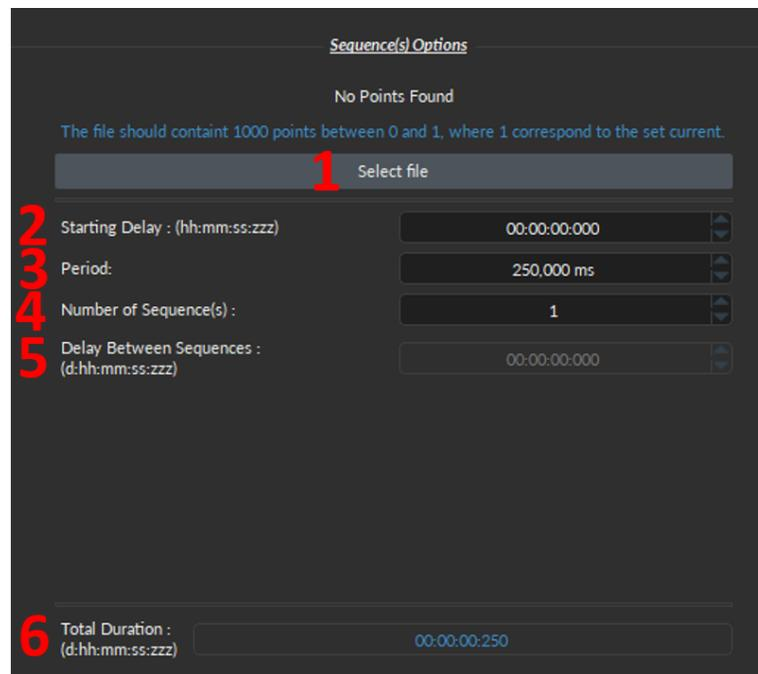

Figure 4.19: Light Source Channel Setup Window, Custom Sequence File Mode
2. The **Starting Delay** (Fig. 4.19) sets the delay (in hh:mm:ss:zzz format) before the first pulse sequence.
3. The **Period** (Fig. 4.19) sets the period (in ms) for the pulse sequence contained in the file.
4. The **Number of Sequences** (Fig. 4.19) sets the number of times that the sequence will be repeated, with a minimum of 1.
- The **Delay Between Sequences** (Fig. 4.19) sets the delay (in hh:mm:ss:zzz format) between each sequence if the **Number of Sequences** is greater than 1.
- The **Total Duration** (Fig. 4.19) displays the total time of the experiment. The displayed values can be *Inf* for infinite or a valid time value.